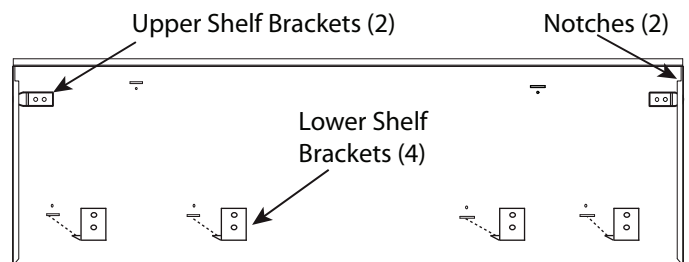

Figure 18: 48" Back of Wall Plate
- Mount the (2) upper shelf brackets and the (3) lower shelf brackets on the 30" & 36" models or (4) lower shelf brackets for the 48" model at the locations outlined on the templates. Secure with (10) 1" (25.4 mm) screws provided.
- Install the wall plate by setting the corner notches (back of wall plate) atop the (2) upper shelf brackets.
- Slide the shelf upwards until the bottom engages with the lower shelf brackets (Figure 18).